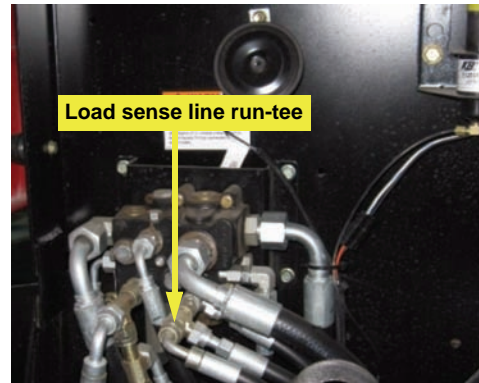

Figure 4c: Load sense line
c. Trace the load sense line to the hydraulic divider mounted on the front side of the firewall. Disconnect the load sense line from its run-tee (Figure 4c).